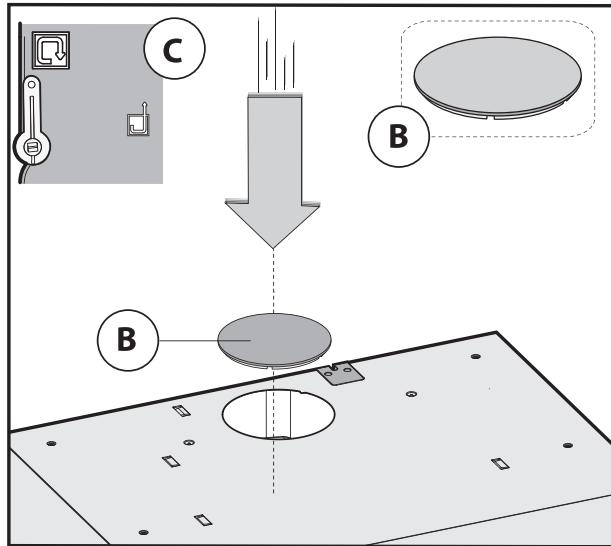
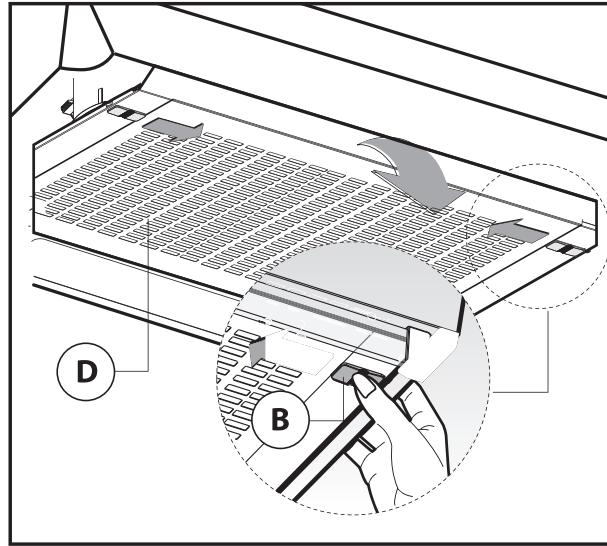
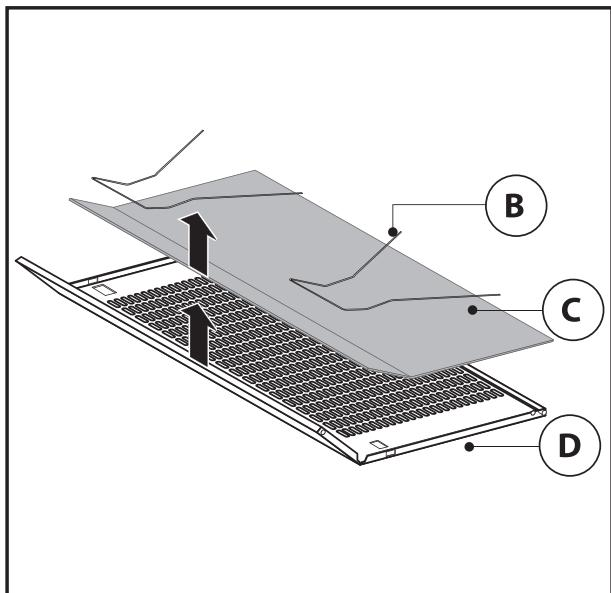

Fig.4
Fig.5
Fig.6
Prior to proceeding with the assembly operations (according to the model that you have purchased), to facilitate handling of the device, remove the grille as indicated in Fig. 5.
- If the hood is a **filter** model, the lever **C** must be positioned as indicated in Fig.4.
To transform an extractor hood version into a filter hood version, please inquire with your retailer about purchasing charcoal filters. The filters should be fitted to the extraction assembly inside the hood, by centring them and rotating them 90 degrees, until they click into place (Fig.7). To do this, remove the grille **D** (Fig.5). Close the air outlet opening with the plug **B**, as indicated in Fig.4
To replace the acrylic or metal panels you need to first remove the grille **D** by pushing the two side buttons **B** inwards as indicated in Fig.5. Remove the two filter clips **B** (Fig. 6) and the acrylic or metal panel **C**. To reassemble the part, simply perform the procedure in reverse.